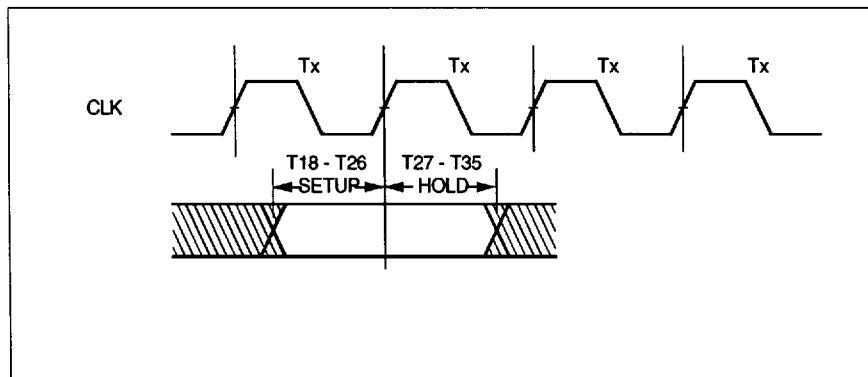

Figure 4-5. Input Setup and Hold Timing
$C_L = 50 \text{ pF}$ ,  $T_{case} = 0^\circ\text{C}$  to  $75^\circ\text{C}$ , See Figure 4-5
**Tcase = 0°C to 75°C, See Figure 4-5**